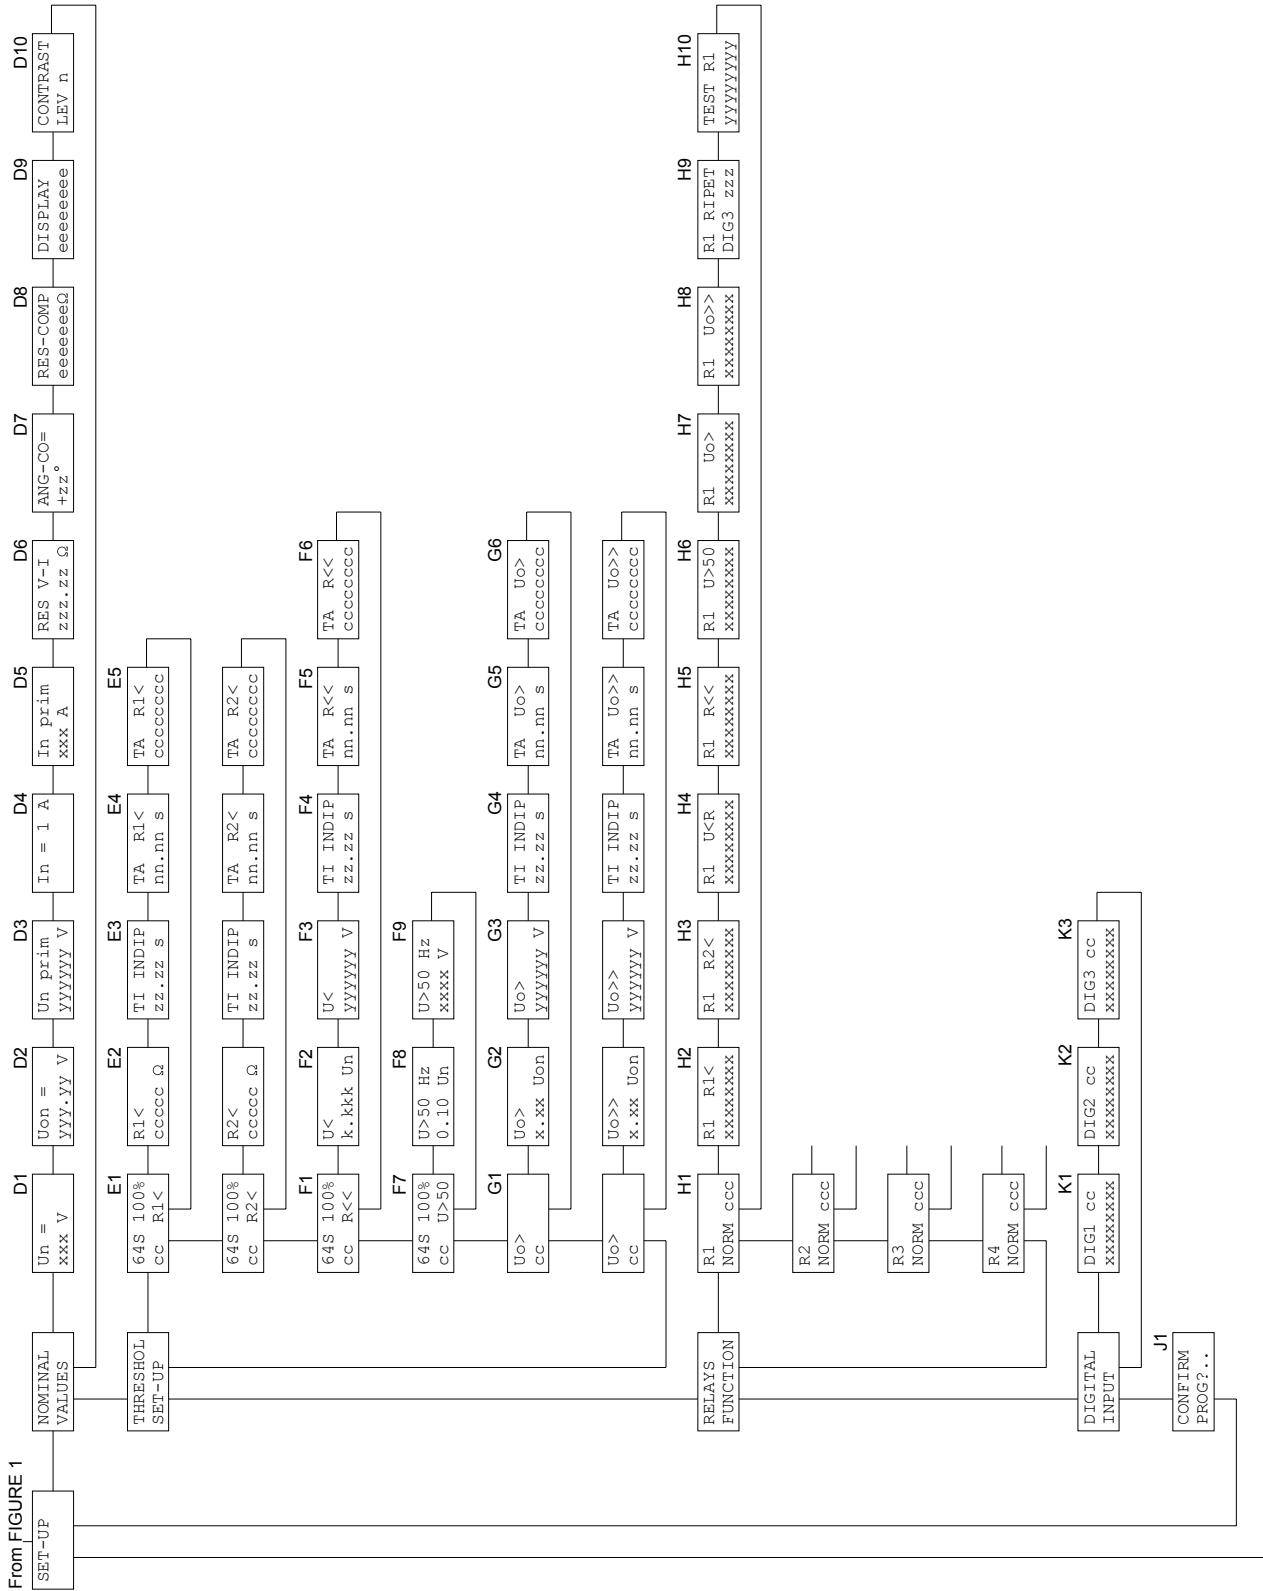

Figure 2
When the output relays test is selected (Figure 2, ref. H10) it is possible to command an output relay (one at the time) to trip from the current status allowing functional tests on electrical plants.
**5.5 Nominal values set-up (figure2)****D1 - SECONDARY INJECTION NOMINAL VOLTAGE  $U_n$  (programmable)**